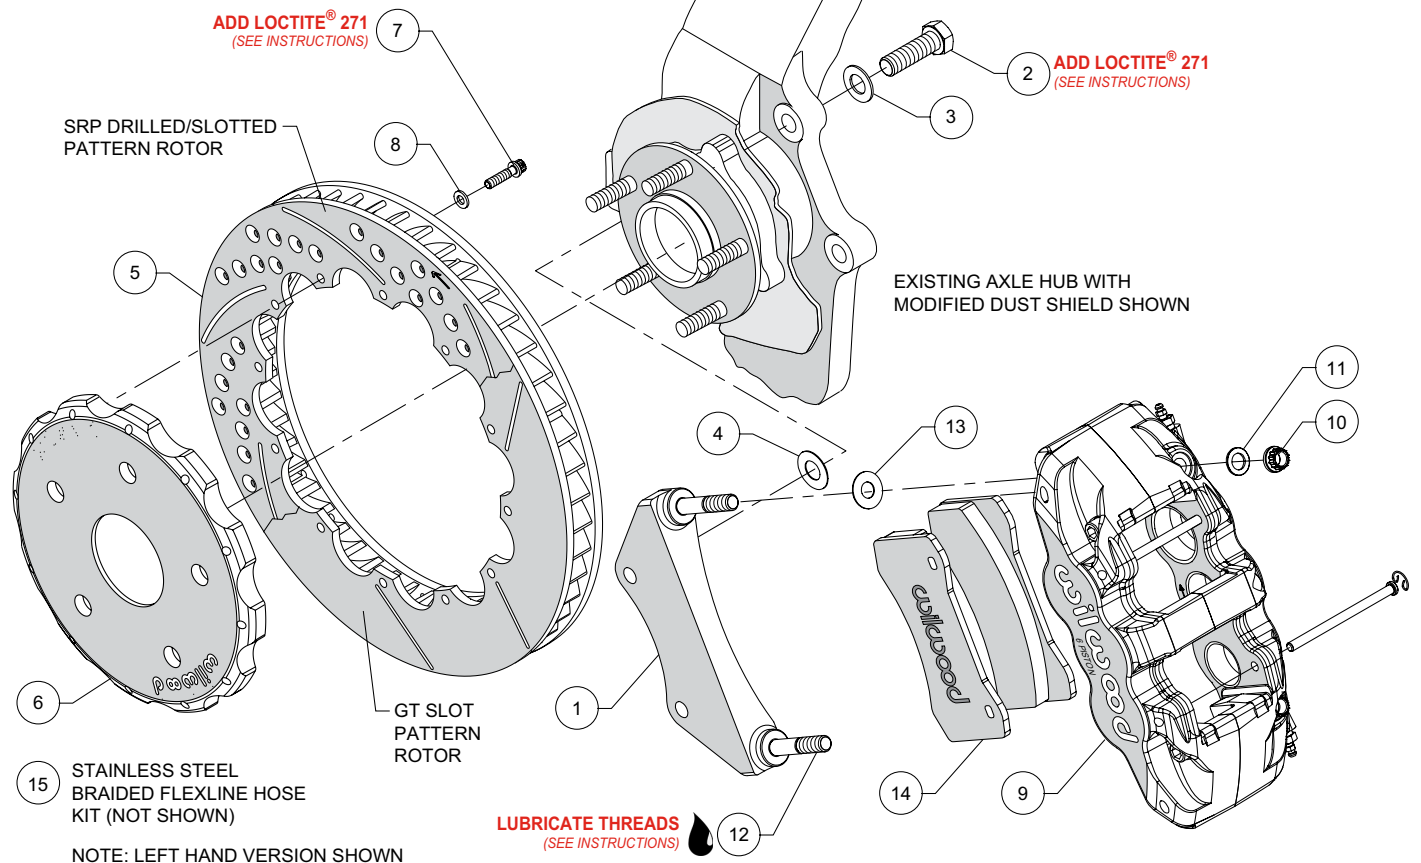
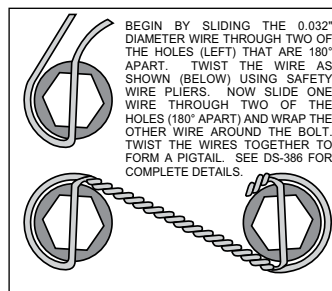

Figure 1. Typical Installation Configuration
Figure 3. Safety Wire Diagram
Assembly Instructions (numbers in parenthesis refer to the parts list and Figure 1 on the preceding pages):
- The caliper mount bracket (1) should initially be installed with clean, dry threads on the mounting bolts. Orient the bracket as shown in Figure 1 and Photo 2, and install using bolts (2) and washers (3). Initially place one .029 thick shim (4) on each bolt between the bracket and upright, Figure 1. Temporarily tighten the mounting bolts. **NOTE:** The bracket must fit squarely against the mounting points on the upright. Inspect for interference from casting irregularities, machining ridges, burrs, etc. Later, after the caliper alignment has been checked, the mount bolts will be secured using red *Loctite*® 271.
- Orient the rotor (5) and the hat (6) as shown in Figure 1 and Photo 3. Attach rotor to hat using bolts (7) and washers (8). Apply red *Loctite*® 271 to the bolt threads and torque to 155 in-lb using a criss-cross pattern. For an added measure of security, the bolts may be safety wired using standard 0.032 inch diameter stainless steel safety wire as shown in Figure 3. Please refer to Wilwood's data sheet DS-386 (available at www.wilwood.com/Pdf/DataSheets/ds386.pdf) for complete safety wire installation instructions.
- NOTE:** This kit contains distinct right and left hand calipers that must be mounted in a specific direction, as described below. Lubricate the caliper mounting studs (12) with lightweight oil. Initially place one .030" thick shim (13) on each stud between the caliper and the bracket, as shown in Figure 1 and Photo 4. Mount the caliper (9) onto the bracket (1) using lock nuts (10) and washers (11), Figure 1. Ensure that the caliper is mounted so the largest pistons are at the rotor exit end of the caliper, in relation to the direction of rotor rotation. Temporarily tighten the lock nuts and view the rotor through the top opening of the caliper. The rotor should be centered in the caliper, Photo 5. If not, adjust by adding or subtracting shims (4) between the bracket and the upright. Always use the same amount of shims on each of the two mounting bolts. Once the caliper alignment is correct, remove the bracket mounting bolts (2) one at a time, apply red *Loctite*® 271 to the threads, and torque to 77 ft-lbs.
- Remove the two pad retaining pins from the caliper (9) by carefully popping out the pin retaining clips and sliding out the pins. Insert the brake pads (14) into the caliper from the bottom, Figure 1 and Photo 6. With the friction material facing the rotor, secure the brake pads in place with the pad retaining pins and clips, Photo 7. Reinstall the caliper (9) onto the caliper mounting bracket (1) and temporarily tighten the lock nuts (10). Check that the top of the brake pad is flush with the outside diameter of the rotor, Photo 8. If not, adjust by adding or subtracting shims (13) between the caliper and the bracket. After the caliper pad height is set, torque the caliper lock nuts (10) to 47 ft-lb.